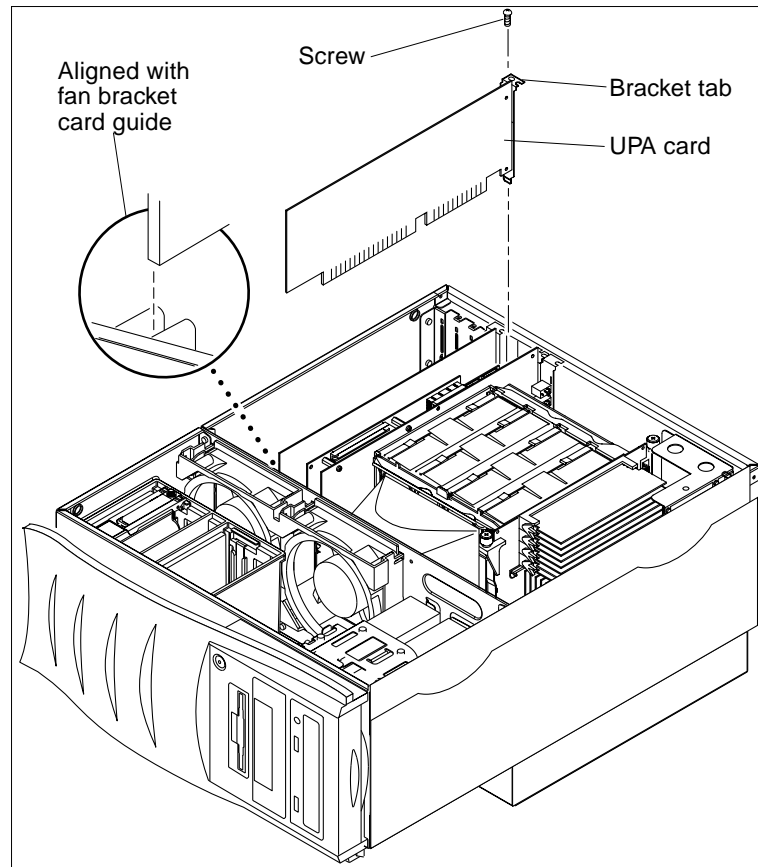

FIGURE 9-5 Removing and Replacing a UPA Graphics Card
**4. Remove the UPA graphics card as follows (FIGURE 9-5):**
1. **Replace the UPA graphics card as follows (FIGURE 9-5):**